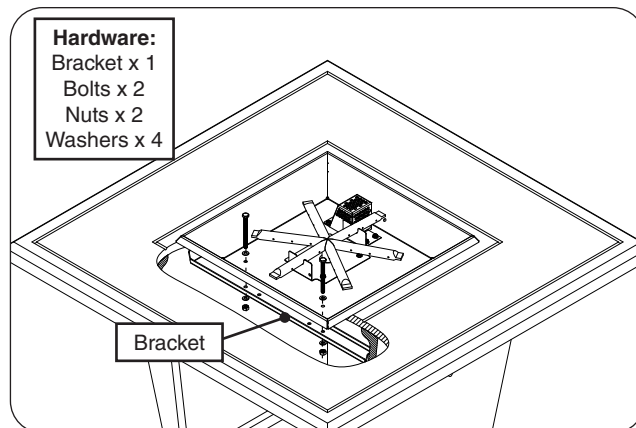

Fig. 29-4 Install bracket
7. Locate the supplied support bracket and install as shown in Fig. 29-4. The bracket must be inserted into the enclosure through the door opening, aligned with the holes found on the burner pan, and fastened with a 1/2" wrench and the supplied bolts (2), nuts (2), and washers (4).